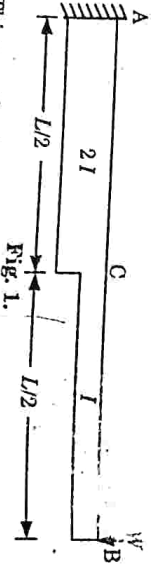

Fig. 1.
d. Find the slope and deflection at the free end of a cantilever shown in Fig. 1 by moment area method. Moment area of AC is twice the inertia of BC.